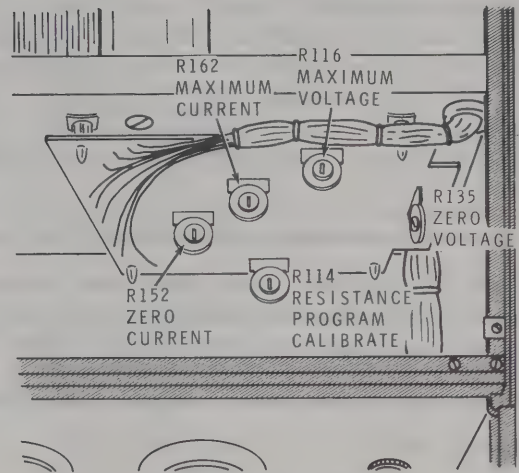

Figure 3-13
7. Refer to Figure 3-13 and adjust R114, the Resistance Program Calibrate control, for a 30-volt indication on the Power Supply meter.